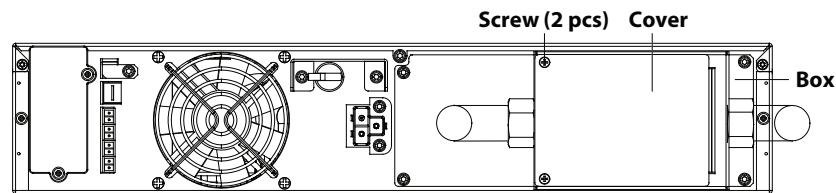

Figure 22: Installing the cover
- Use two box assembly screws to install the cover onto the box, as shown in Figure 22.